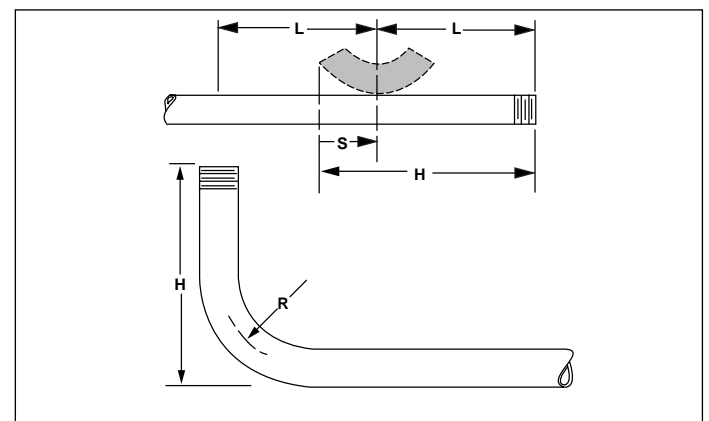

Figure 5
1. Mark desired turn-up dimension (**H**) on straight length of pipe (see figure 5).